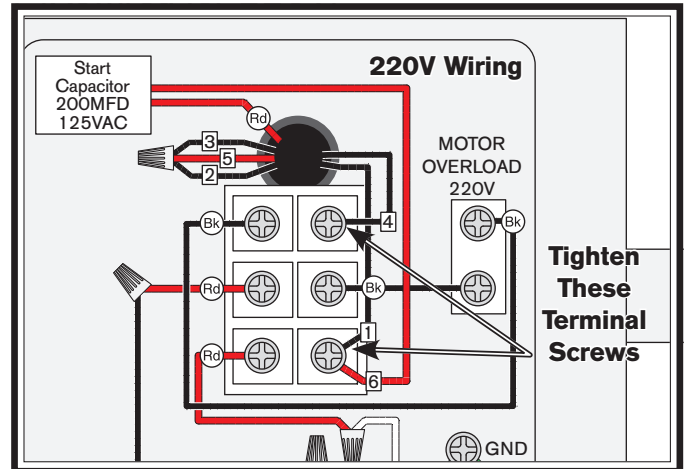

Figure 58. Rewired for 220V.
4. Connect wires #1 and #6 to the lower right terminal and wire #4 to the lower right terminal shown in **Figure 58**. Tighten the terminal screws to secure the wires.